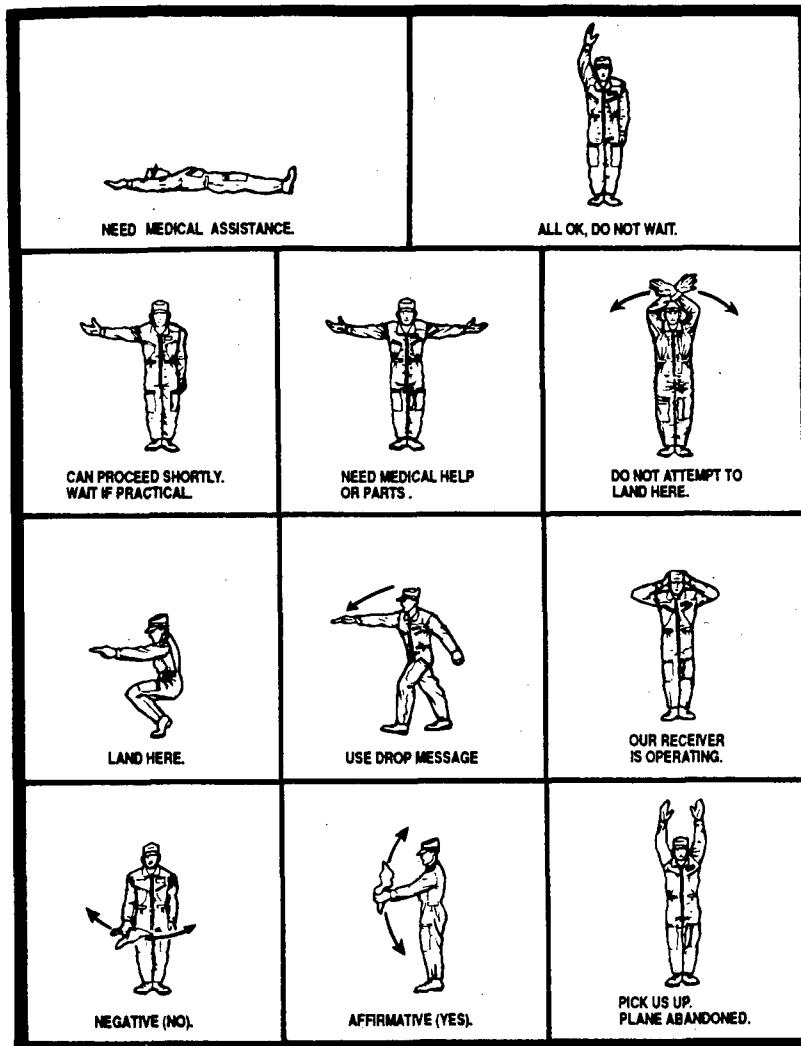
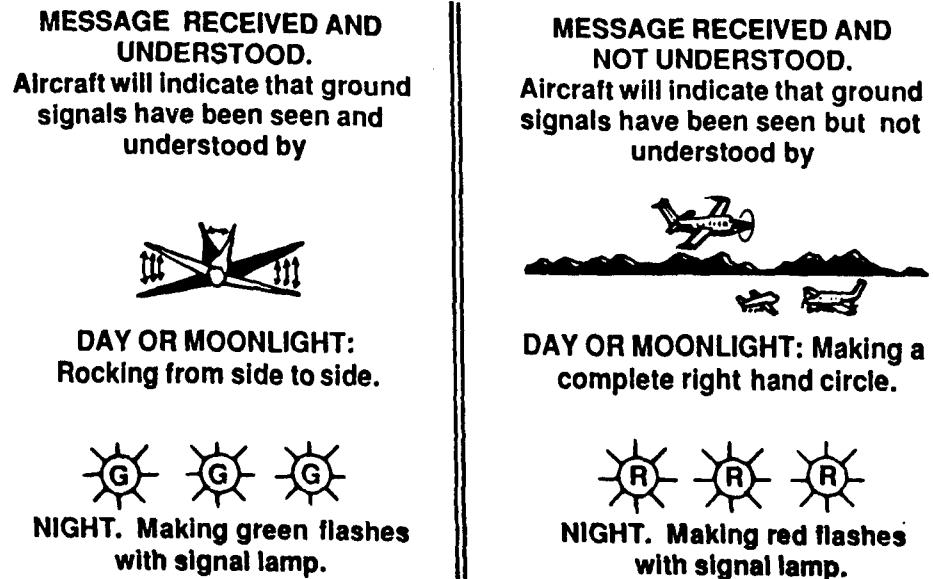

Figure 3-8. Body Distress Signals.
Figure 3-9. Aircraft Acknowledgment Signals.
- Body signals - Figure 3-8 shows the body signals that survivors can use during the day once they have attracted the attention of CSAR crews. Figure 3-9 shows aircraft acknowledgement signals.